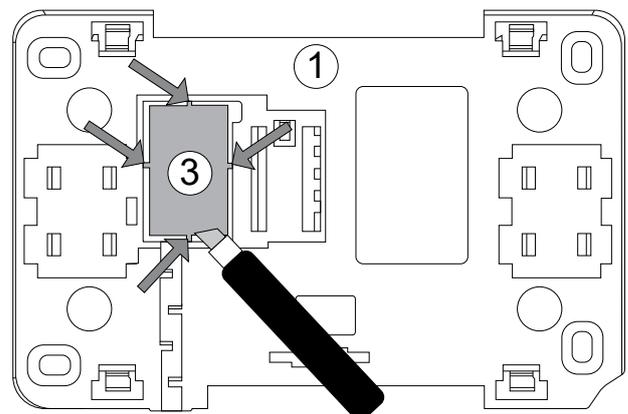

Figure 3-3: Mounting plate cutaway
2. Using a sharp tool cut out holes in four places of the cover for the screw terminals. (Refer to Figure 3-3)